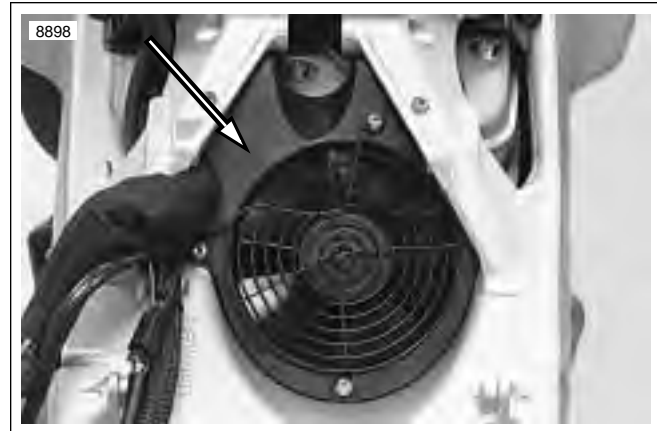

Figure 4-59. Cooling Fan
An engine temperature (ET) sensor signal, indicating a cylinder head temperature above 428° F (220° C), causes the ECM to command the fan on. When ignition is OFF, fan may run for approximately two and a half minutes depending on temperature of vehicle when ignition was turned off. See Figure 4-59.